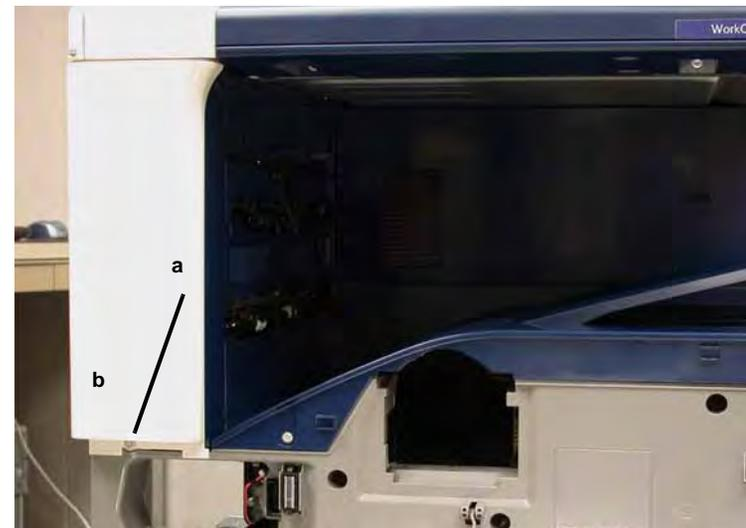

Figure 3 Cover Removal
4. Remove the Front Left Cover and Exit Front Cover (Figure 3).
- a. Remove Screw (1).